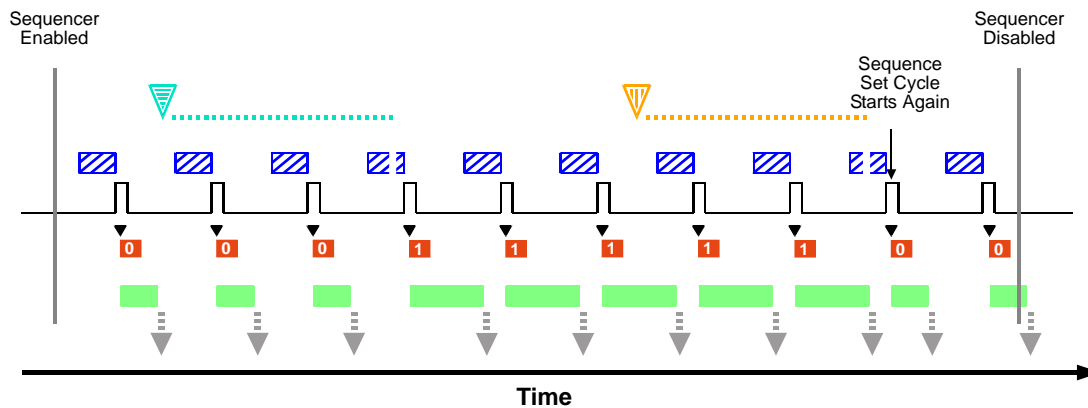

Fig. 50: Sequencer in Controlled Sequence Advance Mode with Disabled as the Sequence Control Source and Asynchronous Advance and Restart
The following use case (see also Figure 50) illustrates the operation of the sequencer in controlled sequence advance mode with Disabled selected as the sequence control source. Sequence set advance proceeds in ascending sequence set index numbers subject to asynchronous advance commands. After one sequence set cycle is complete, another one starts. Sequence set cycle restarts are subject to asynchronous restart commands.
- When the AsyncAdvance command becomes effective, the camera happens to be in "waiting for frame start trigger" status. The parameter values of the next sequence set, i.e. of sequence set 1, are loaded into the active set. Note that the camera briefly exits the "waiting for frame start trigger" status while the parameter values of sequence set 1 are loaded into the active set (see also Figure 50).
- When the AsyncRestart command becomes effective, the camera happens to be in "waiting for frame start trigger" status. The parameter values of sequence set 0 are loaded into the active set. Note that the camera briefly exits the "waiting for frame start trigger" status while the parameter values of sequence set 1 are loaded into the active set (see also Figure 50).